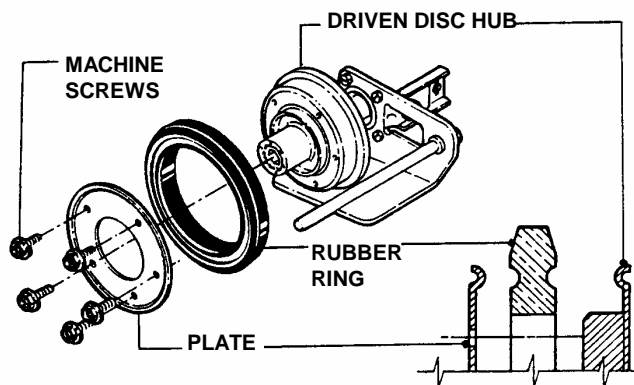

FIGURE 4.13
3. Remove the five machine screws and plate which secure the rubber ring to the driven disc hub. See Figure 4.13.